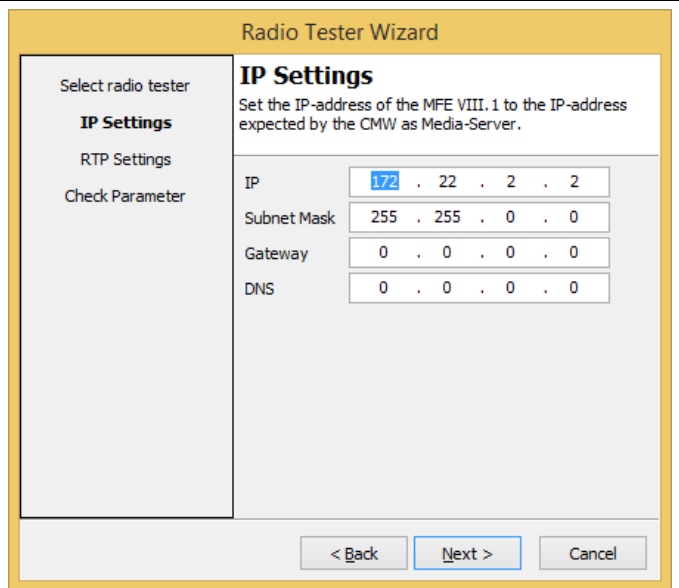
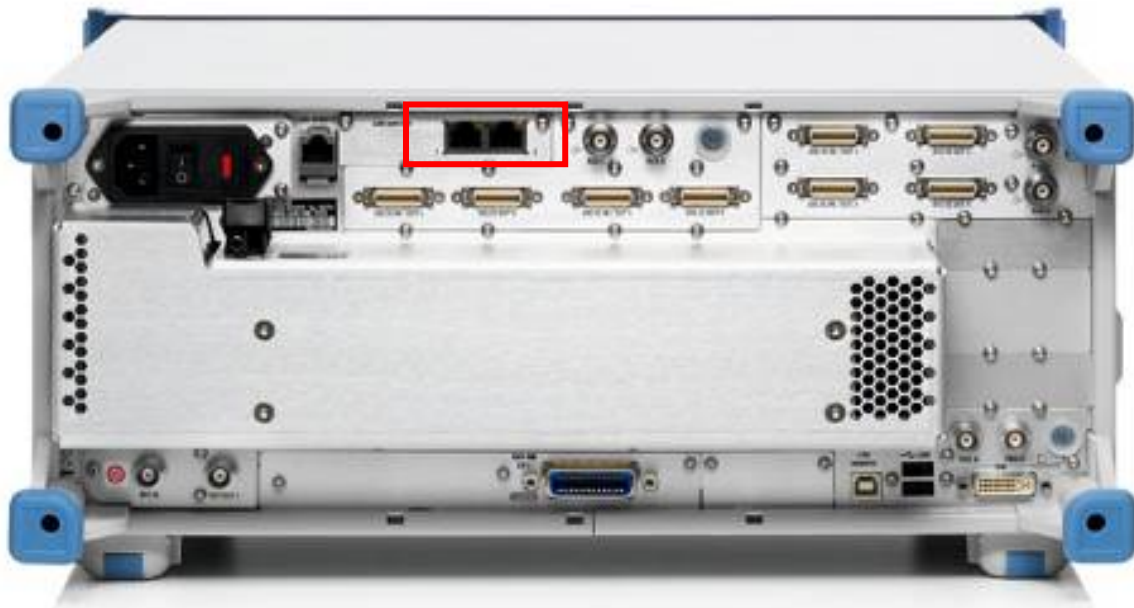
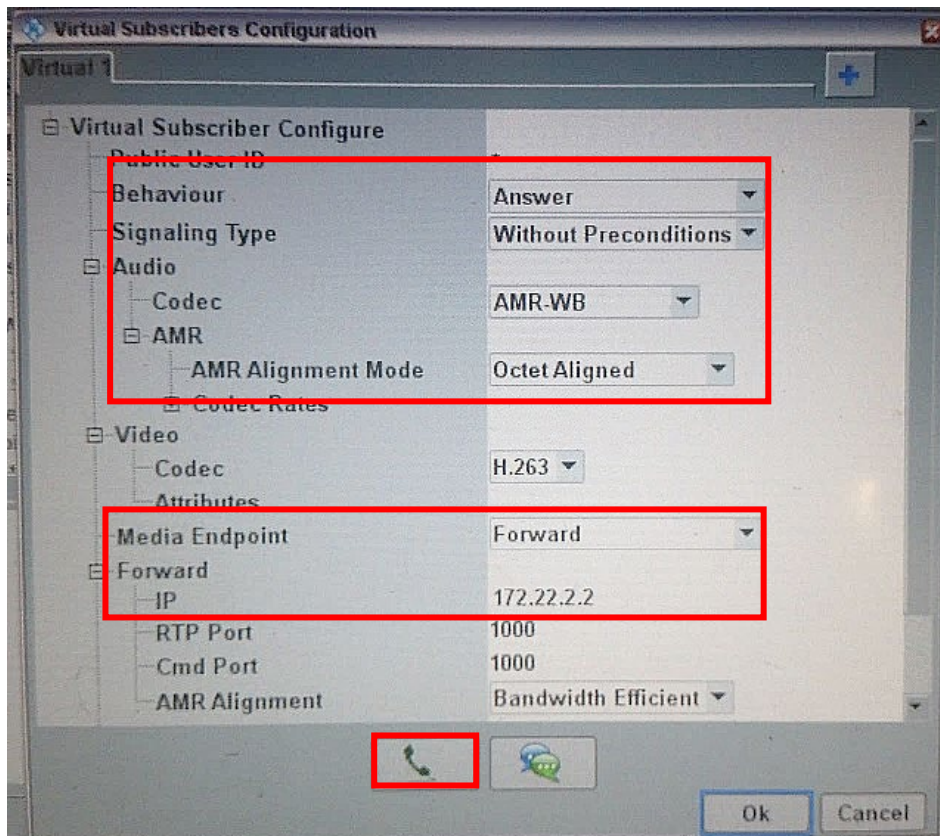

Figure 7: IP Settings
Figure 11: CMW500 back view
Figure 24: Virtual Subscribers Configuration
18. Set the **Audio Routing** to **Forward** (Figure 24). This ensures that the RTP stream is forwarded to the MFE VIII.1 via LAN SWITCH at the back of the CMW500 (Figure 11).
19. **Media Endpoint** is the IP Address of the MFE VIII.1 (see Figure 7 in Wizard, and Figure 24).